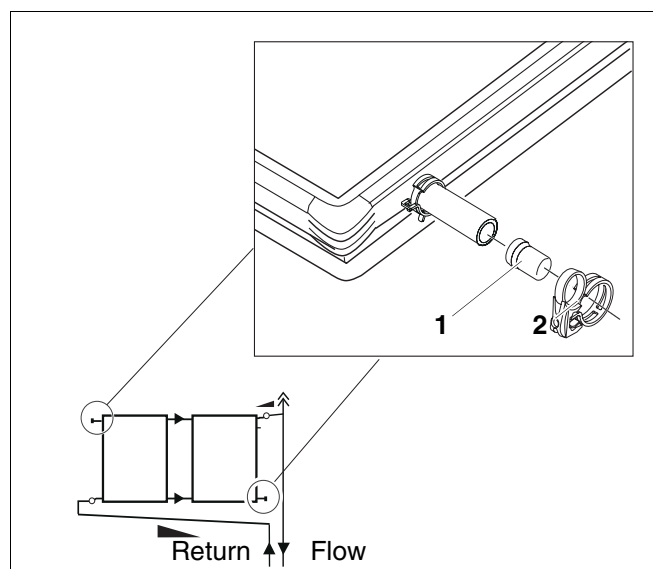

Fig. 45 Dummy plug installation
- ▶ To do this, insert the dummy plug (Fig. 45, **Item 1**) head first into the short solar hose.
- ▶ Push the hose clip (Fig. 45, **Item 2**) up to the head of the dummy plug (Fig. 45, **Item 1**).